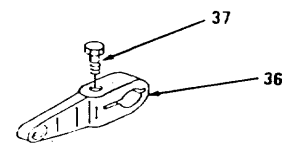

Figure 3-158.
48. Install bolt (37) in lever (36, Figure 3-158).